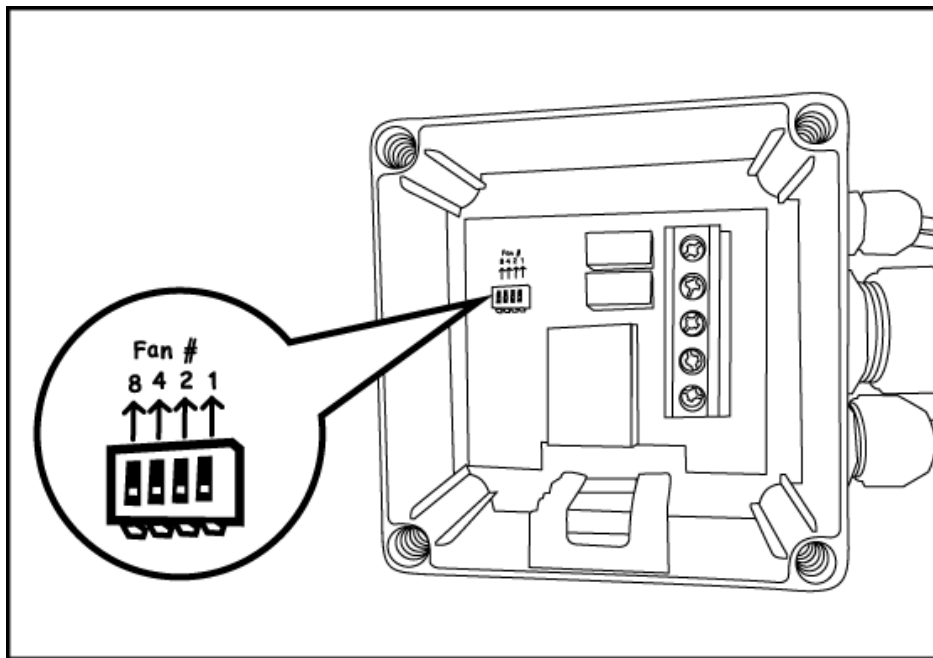

Figure 4: Dip switch to set unique ID
1. Dip Switches inside Master or Remote unit need to be set to give unique IDs and to set offset start up times. (See *Figure 4*) The BIN-SENSE® Fan Controllers require unique IDs in order to determine which bin they are installed on and to be able to accommodate start up offset times. The IDs should always start at 1 and increase consecutively.